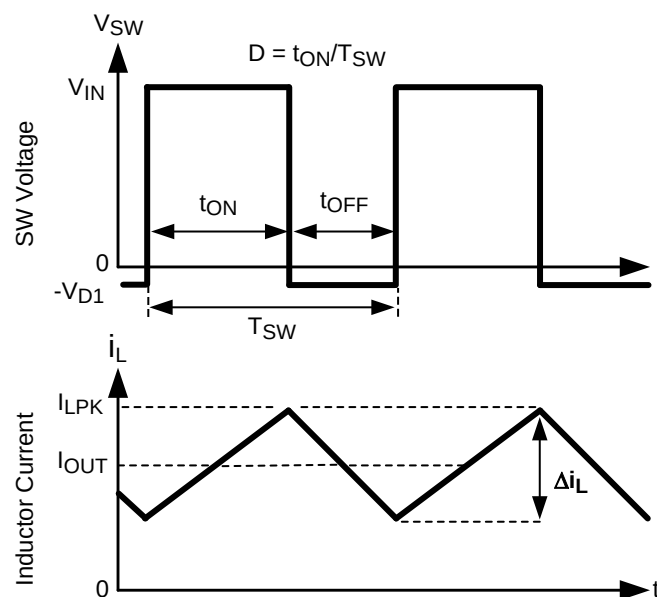

Figure 22. LMR12015/20 Waveforms of SW Pin Voltage and Inductor Current
The following operating description of the LMR12015/20 will refer to the Block Diagram and to the waveforms in Figure 22. The LMR12015/20 supplies a regulated output voltage by switching the internal NMOS switch at a constant frequency and varying the duty cycle. A switching cycle begins at the falling edge of the reset pulse generated by the internal oscillator. When this pulse goes low, the output control logic turns on the internal NMOS switch. During this on-time, the SW pin voltage (V_{SW}) swings up to approximately V_{IN} , and the inductor current (i_L) increases with a linear slope. The current-sense amplifier measures i_L , which generates an output proportional to the switch current typically called the sense signal. The sense signal is summed with the regulator's corrective ramp and compared to the error amplifier's output, which is proportional to the difference between the feedback voltage (V_{FB}) and V_{REF} . When the output of the PWM comparator goes high, the switch turns off until the next switching cycle begins. During the switch off-time (t_{OFF}), inductor current discharges through the catch diode D1, which forces the SW pin (V_{SW}) to swing below ground by the forward voltage (V_{D1}) of the catch diode. The regulator loop adjusts the duty cycle (D) to maintain a constant output voltage.
During a normal switching cycle, when the internal NMOS control switch is off (t_{OFF}) (refer to Figure 22), V_{BOOST} equals V_{LDO} minus the forward voltage of the internal diode (V_{D2}). At the same time the inductor current (i_L) forward biases the catch diode D1 forcing the SW pin to swing below ground by the forward voltage drop of the catch diode (V_{D1}). Therefore, the voltage stored across C_{BOOST} is
Inductor selection is critical to the performance of the LMR12015/20. The selection of the inductor affects stability, transient response and efficiency. A key factor in inductor selection is determining the ripple current (Δi_L) (see Figure 22).